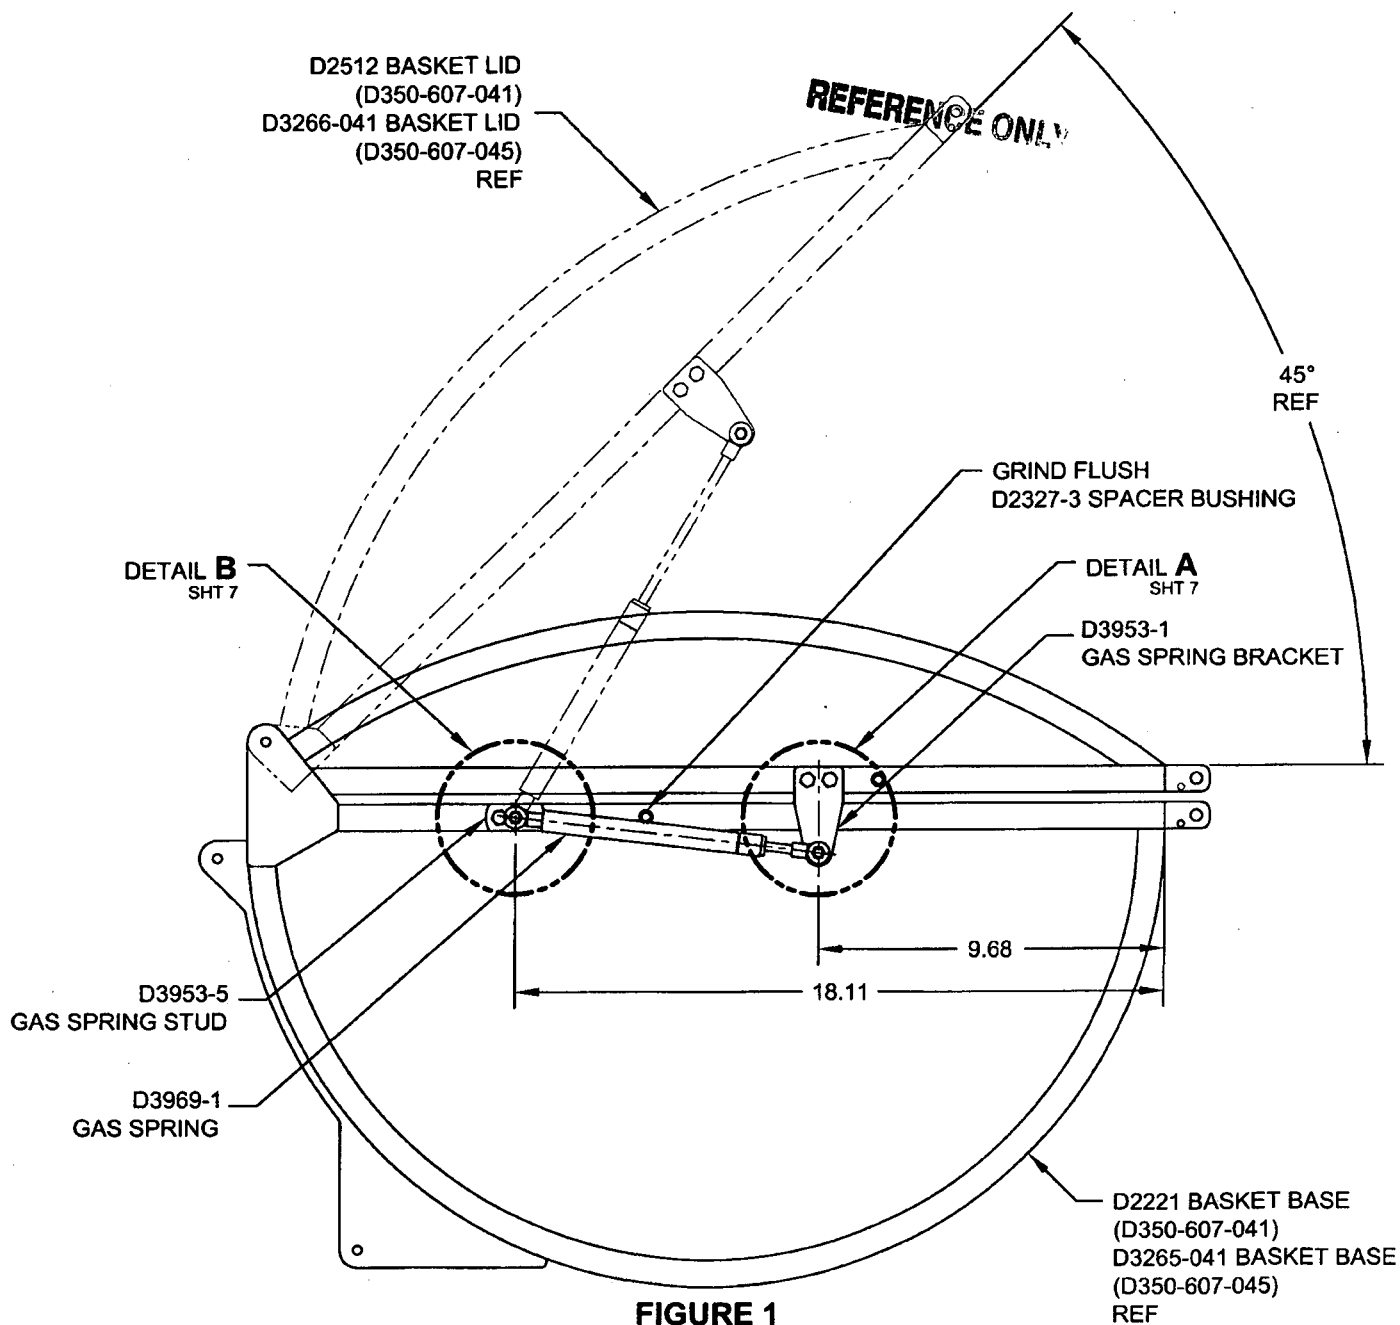

FIGURE 1
- 2) GRIND FLUSH THE D2327-3 SPACER BUSHING ON BOTH ENDS OF THE BASKET AS SHOWN IN FIGURE 1 (IT IS PERMISSIBLE TO GRIND ALL 4 SPACERS FLUSH). TOUCH UP PAINT PER ICA-D350-607 REV. 0 SECTION 5.1 ITEM 4.
- 3) LOCATE THE D3953-1 GAS SPRING BRACKET AS SHOWN IN FIGURE 1. TRIM STEEL MESH LOCALLY AS REQUIRED. TOUCH UP PAINT PER ICA-D350-607 REV. 0 SECTION 5.1 ITEM 4. TRANSFER MARK AND DRILL 2X Ø0.194 HOLES THRU THE BASKET LID SQUARE TUBE STRUCTURE AS SHOWN IN DETAIL A. INSTALL THE D3953-1 GAS SPRING BRACKET & D3953-13 GAS SPRING SPACER USING 2X AN3C16A BOLT, 2X NAS1149C0332R WASHER & 2X MS21043-3 NUT AS SHOWN IN VIEW E-E.
- 4) LOCATE THE D3953-5 GAS SPRING STUD AS SHOWN IN FIGURE 1. TRIM STEEL MESH LOCALLY AS REQUIRED. TOUCH UP PAINT PER ICA-D350-607 REV. 0 SECTION 5.1 ITEM 4. TRANSFER MARK AND DRILL 2X Ø0.194 HOLES THRU THE BASKET BASE SQUARE TUBE STRUCTURE AS SHOWN IN DETAIL B. FASTEN D3953-5 IAW VIEW F-F USING 2X AN3C11A BOLT, 2X NAS1149C0332R WASHER & 2X MS21043-3 NUT.
- 2) GRIND FLUSH THE D2327-3 SPACER BUSHING ON THE END OF THE BASKET WHERE THE LID OPENER IS BE INSTALLED AS SHOWN IN FIGURE 1 (IT IS PERMISSIBLE TO GRIND ALL 4 SPACERS FLUSH). TOUCH UP PAINT PER ICA-D350-607 REV. 0 SECTION 5.1 ITEM 4.